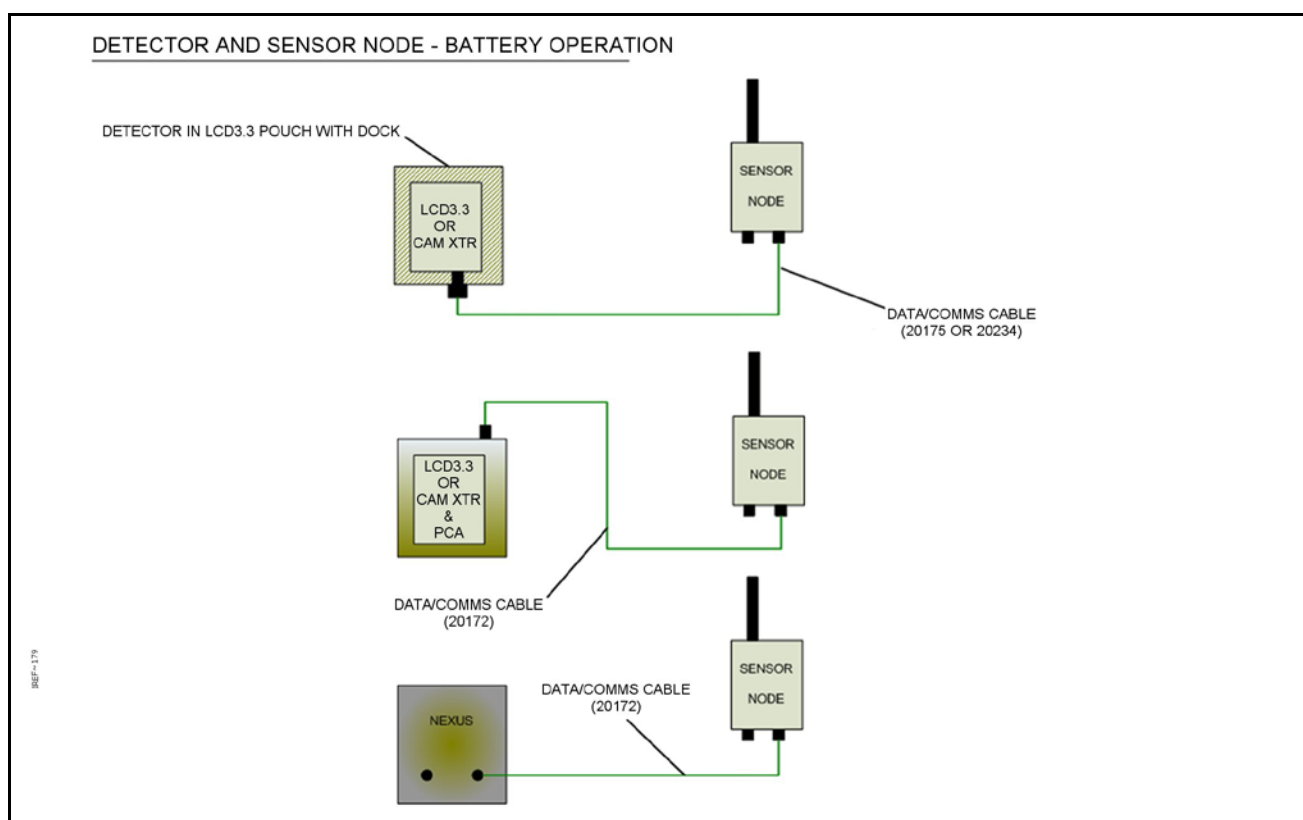
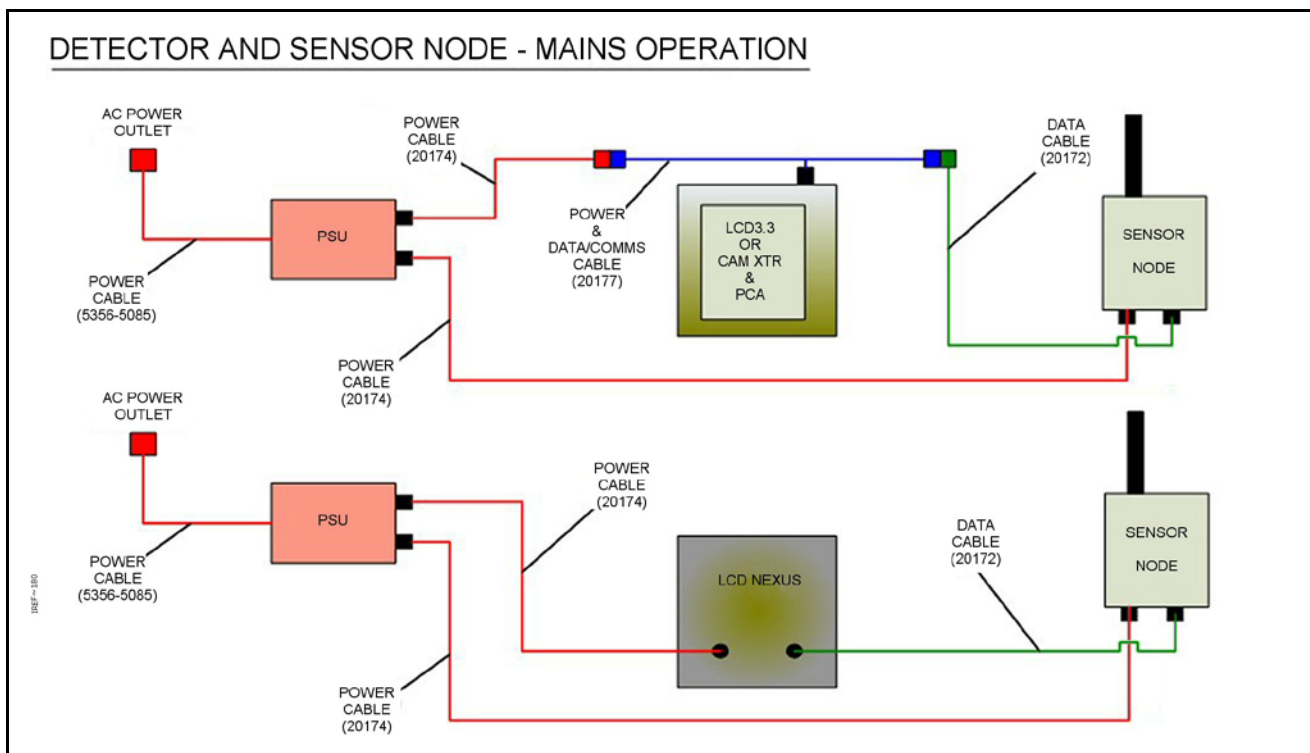

Figure 30 Interconnection Diagram for the Sensor Node using Battery Power
Figure 31 Interconnection Diagram for the Sensor Node using Mains Power
A Sensor Node is the point at which a detector is to be setup as a node on the Sensa-LINX Detector Networking System. Use the following information as a guide to setting up a Sensor Node for the Sensa-LINX Detector Networking System. Equipment for this location is provided as part of the Detector Sensor Node Kit. The detector Sensor Node set up varies slightly depending on which detector is being used and if an external power source is to be used. There is, however, no significant difference to the set up whether the sensor node is to be secured in a fixed location, secured to a vehicle or worn as personal equipment. Refer to Figure 30 and Figure 31 below for further cable and connector information.
- Using the appropriate Data (Comms) cable provided with the Detector Sensor Node Kit, connect the connector on the LCD3.3 Pouch with Dock, PCA or NEXUS detector or CAM XTR to Connector 3 on the Sensor Node. Refer to Figure 30.
- If an external power supply is available and is to be used, use the PSU or DC to DC Adaptor (see Figure 11) and relevant cable to connect an external supply to Connector 1 on the bottom of the Sensor Node. Refer to Figure 31.